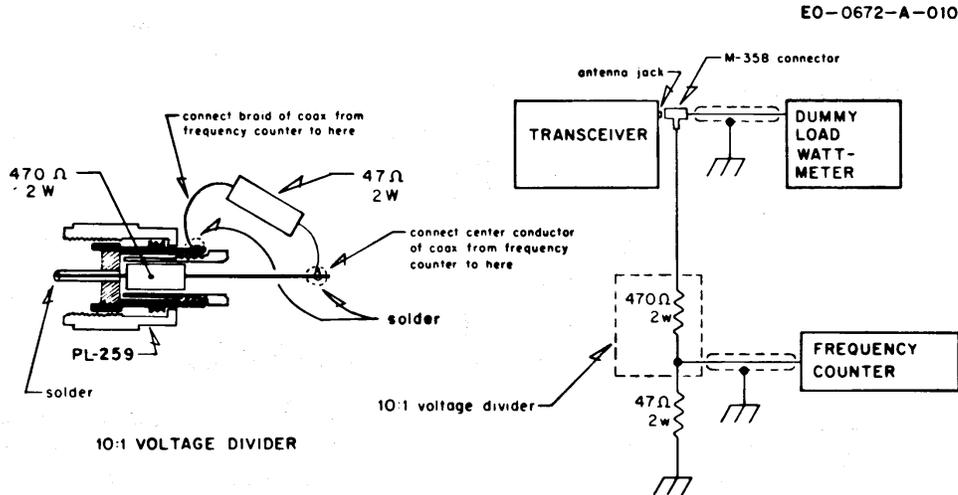

Figure 3-4
*See Figure 3-4 for connection of the frequency counter and the dummy load.